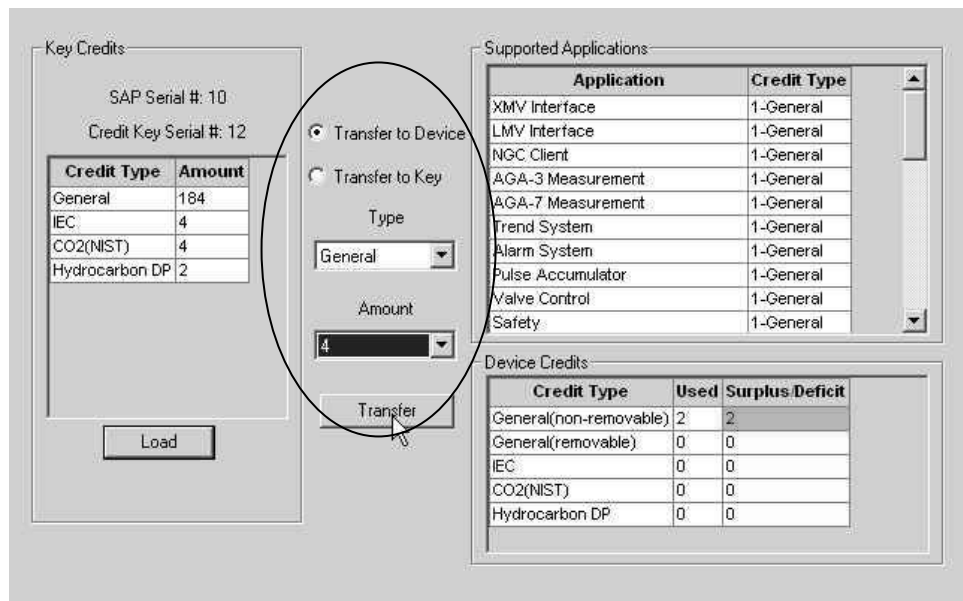

Figure 79 Transfer to Device Application Credit Selections
7. Select **Transfer to Device**, located in the center of the screen (see Figure 79).